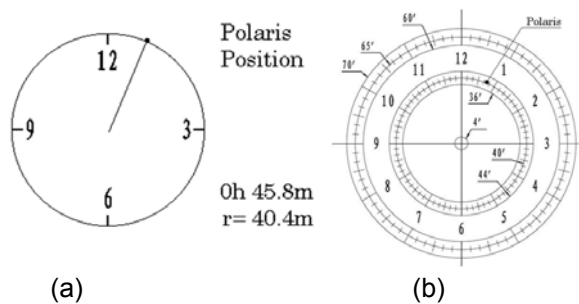

Figure 15
- (4) Use Hand Controller (**MENU** => “**Align**” => “**Pole Star Position**”) to display the Polaris Position on the LCD screen, as indicated in **Figure 15 (a)**. For example, June 22, 2014, 20:19:42 in Boston, US (alt N42°30’32” and long W71°08’50”), 300 min behind UT, the Polaris Position is 0h45.8m and 40.4m.
- (5) Use the Azimuth and Latitude Adj. Knobs to adjust the mount in both directions and put the Polaris in the location on the Polar Scope Dial (same as indicated on the HC LCD), as shown in **Figure 15 (b)**.